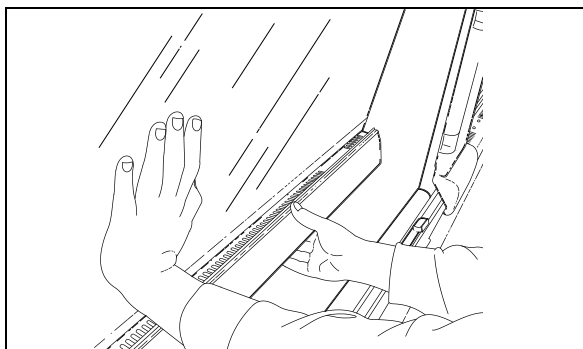

FIGURE 40: EMERGENCY EXIT WINDOW 18391
An emergency exit window can be opened by pulling the lower part of the release bar to disengage the safety latches, and then by pushing out the window frame (Figure 40).
4. Loosen the set screws #5 (figure 40)(rotate the arm to get to the second set screw) and disengage the swiveling arm from the motor shaft extension.